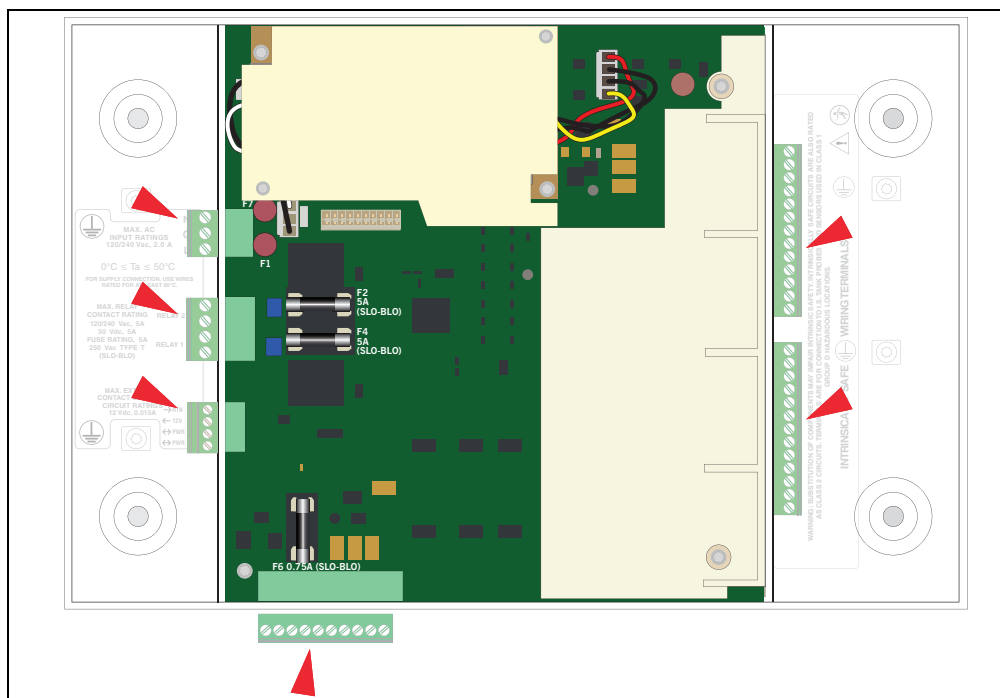

Figure 6. Remove all plugs attached to USIOM board
3. Remove all plugs connected to the USIOM board (identified by arrows in Figure 6).